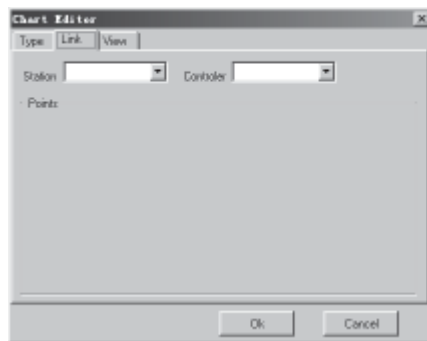

**Fig. 4-33 Insert OLE Objects**
1. Select and click  and then move the mouse to the drawing interface, and the dialogue frame as in Fig. 4-33 will be shown in the system.